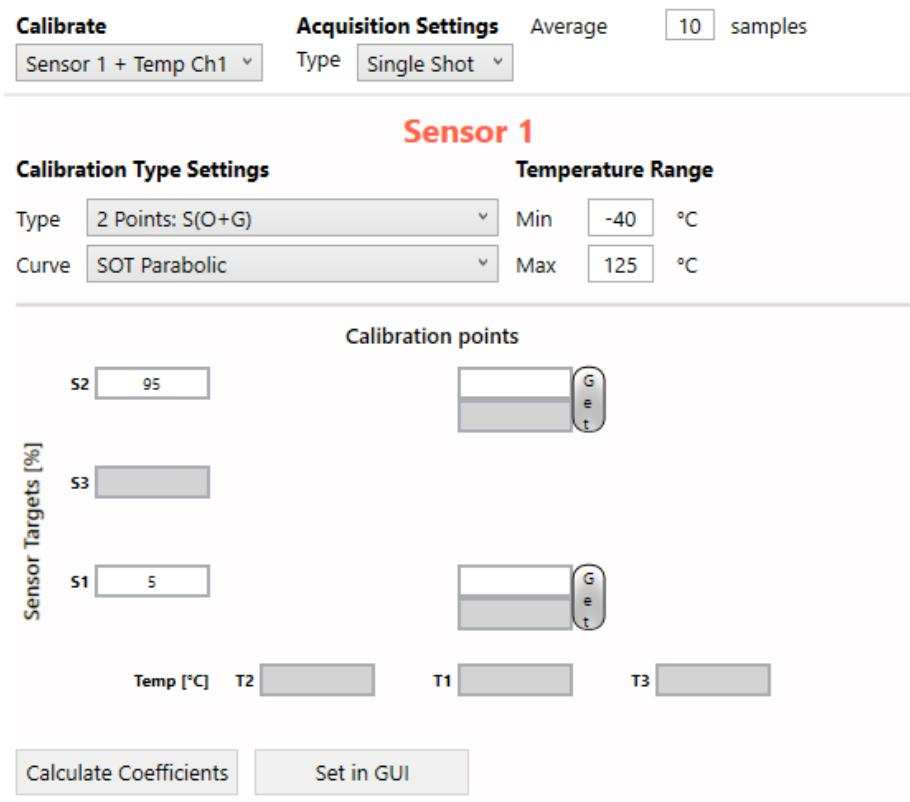

Figure 173. Calculate Coefficients, Set in GUI
When the complete set of calibration data is collected, the correction coefficients can be calculated by clicking the 'Calculate Coefficients' button (see Figure 173).
- Success: save the calibration coefficients in the NVM by clicking the 'Set in GUI' button (see Figure 173) and execute a Memory Write.